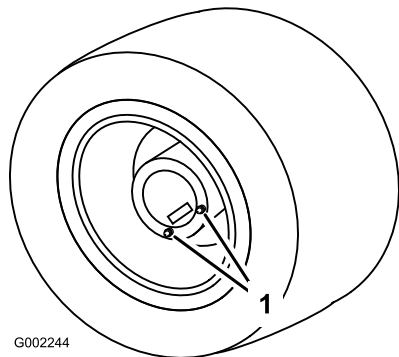

Figure 81
1. Position the sprayer on a level surface with the rear wheels positioned as shown in Figure 81.
3. Align a drain pan under the drain plugs and remove them from the hub (Figure 81).